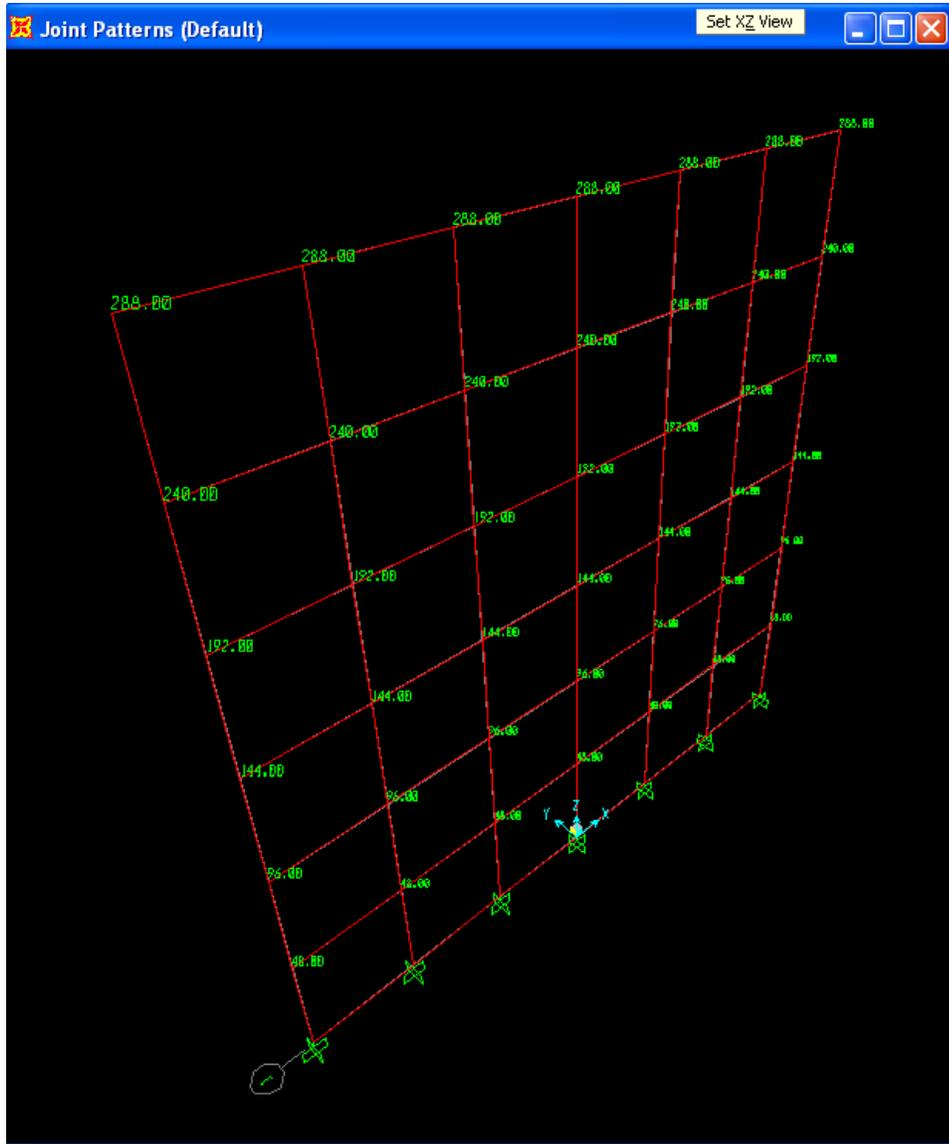

Figure 4 - Assignment review
7. Finally, select Display > Show Misc Assigns > Joints to graphically review the joint pattern assignments, as shown in Figure 4: